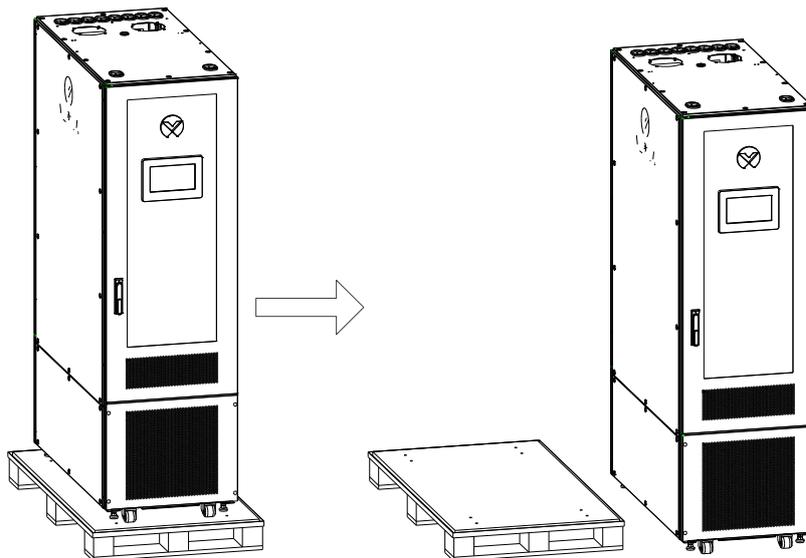

Figure 2-8 Removing the pallet
5) Lift the cabinet horizontally, remove the pallet at the bottom, and gently place the cabinets on the horizontal floor as shown in the figure 2-8.